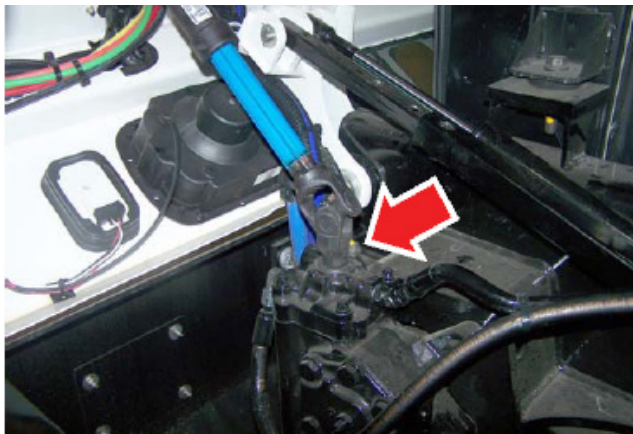

Figure 5
- 5. Remove the pinch bolt at the bottom of the steering column shaft where it is connected to the steering gear and discard the pinch bolt (See Figure 5).